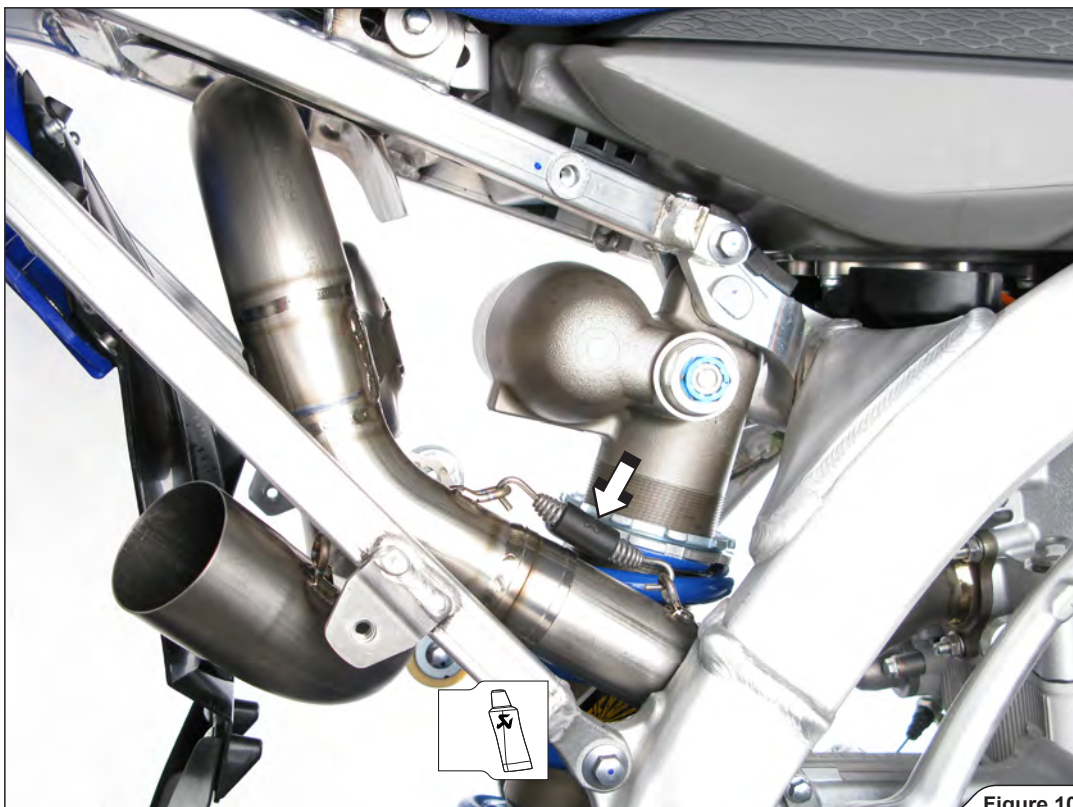

Figure 10
3. Correctly position the link-pipe and slide it onto the header pipe. Attach the **shorter** spring and reattach the stock rear fender (Figure 10, 11).